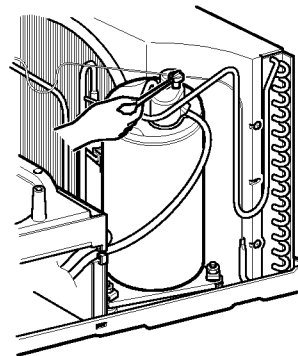

Figure 10
6. Re-install the components by referring to the above removal procedure. (See figures 10 and 11)